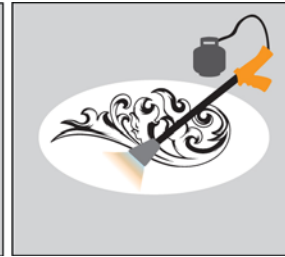

Figure 7: Heat material
5. The amount of sealer in a 300/600 ml cartridge will be sufficient for applying 45 sq. ft. of DecoMark®. The 75/150 ml cartridge will cover 10 sq. ft. **Note: It is critical that the sealer does not cure up before the DecoMark® material has been applied and heated, therefore do not apply sealer to an area larger than what can be heated in 20 minutes.** Holding the tip of the nozzle above the application area, squeeze out an appropriate amount of sealer. *See Figure 7*. Using the roller provided spread out the applied sealer over the selected application area. *See Figure 8*. Do not apply sealer outside the chalk line. The sealer should appear as a light coat of paint, leaving a shiny surface. **Do not wait for the sealer to cure up before applying the DecoMark® material.**